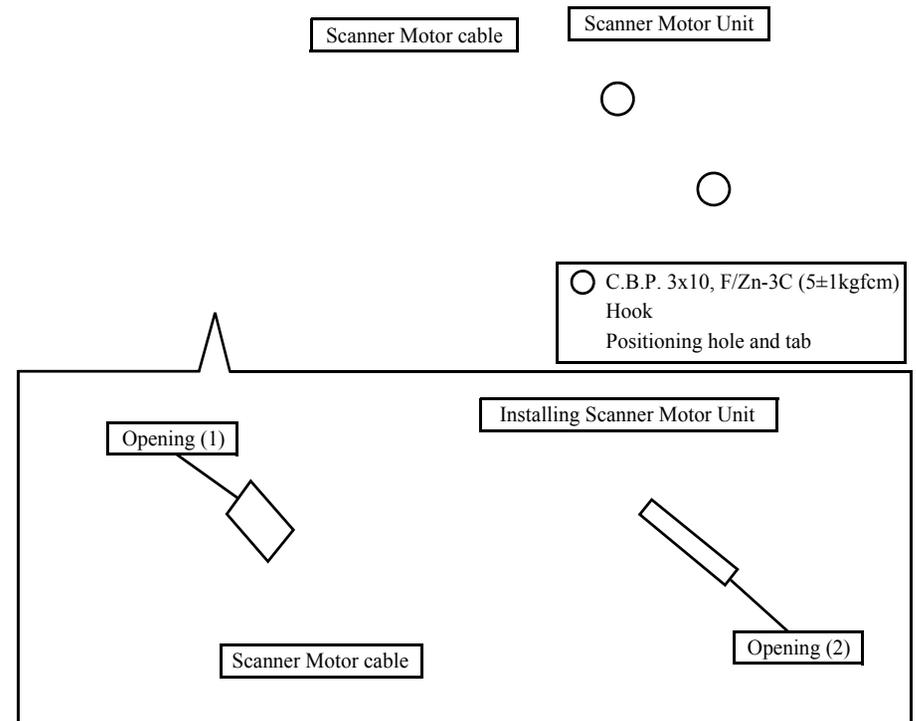

Figure 4-125. Removing the Scanner Motor Unit
- When installing the Scanner Motor Unit, align the positioning holes (x2) of the Scanner Motor Unit with their positioning tabs (x2) of the Lower Scanner Housing as shown in Figure 4-125.
- When routing the Scanner Motor cable, place the ferrite core in the opening (1) after leading the Scanner Motor cable through the opening (2) as shown in Figure 4-125.